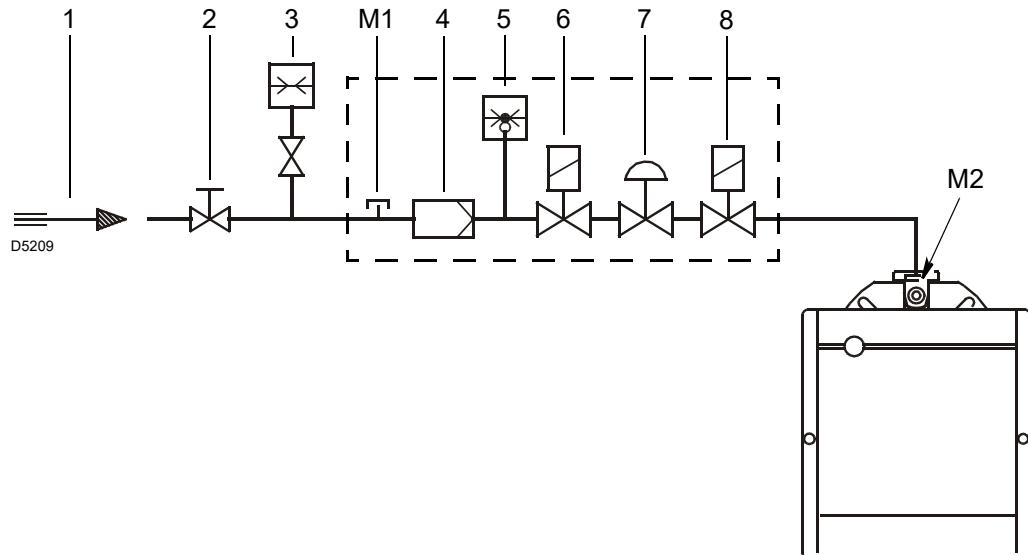

Fig. 14
Key (Fig. 14)
To calculate the required gas pressure at test point M2)(Fig. 14), with the maximum modulating output at which you want the burner to operate having been fixed:
- Read on the right, column 1, the pressure at the socket M2)(Fig. 14).
pressure required at the test point M2)(Fig. 14).
Gas pressure measured at test point M2)(Fig. 14), with:
- subtract the pressure in the combustion chamber from the pressure of the gas at test point M2)(Fig. 14).
$$\text{Pressure of the gas at test point M2)(Fig. 14)} = 12.2 \text{ mbar}$$